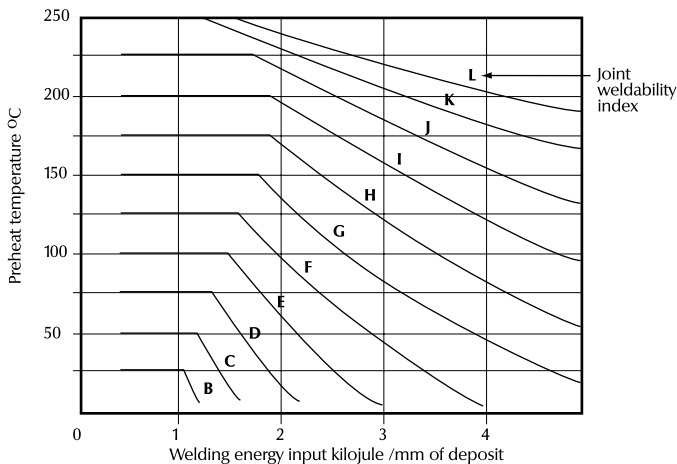
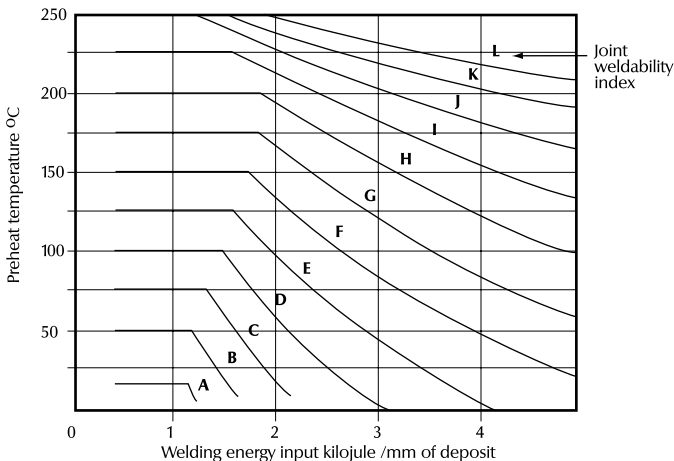

Figure 2 - Determination of preheat requirements for hydrogen controlled electrodes (EXX16, EXX18, EXX28 & EXX48) semi-automatic and automatic welding process.
Figure 3 - Determination of preheat requirements for Manual metal-Arc Welding with other than hydrogen controlled consumables.
4. Cross reference the joint weldability index, with the expected welding energy input (in KJ/mm) on Figure 2* or 3* to calculate the appropriate preheat temperature.
*Note: if a **hydrogen controlled welding consumable** is to be used, refer to Figure 2; if a **non-hydrogen controlled welding consumable** is to be used, refer to Figure 3.
3. Preheat temperatures should be determined in accordance with the requirements of Figure 2 or 3 with the preheat temperature being maintained between subsequent weld passes.